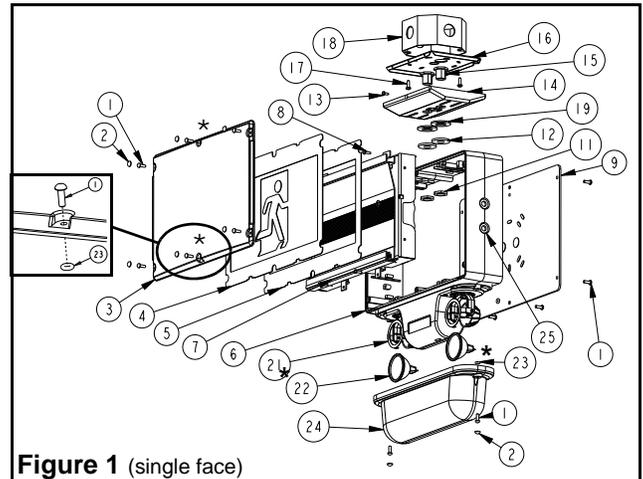
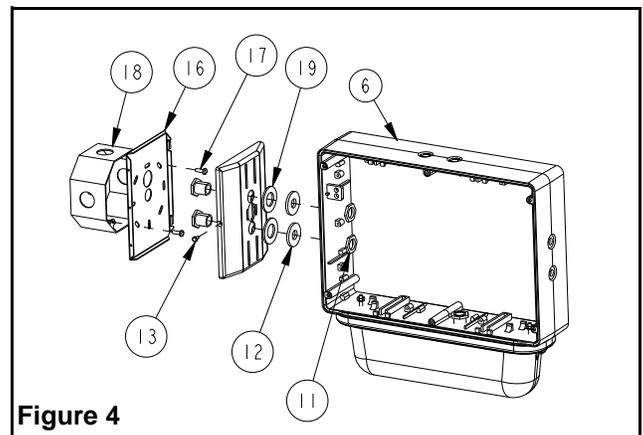

Figure 1 (single face)
Figure 4
- c. Remove proper knockouts in canopy backplate for desired mounting position. For **Nexus** wired option, install the liquidtight™ fitting, provided with the unit. For Ceiling mount, use the knockout located on top of the unit. For Side mount, use the knockout located on side of the unit (see fig. 4).
- e. Make sure the securement screw is accessible (see figures.1 & 2 part # 13). Use existing screws in junction box to secure canopy backplate to the junction box.
- h. Determine which holes in the exit frame will be used for mounting (see figures 1,2 & 4). Support frame by two blocks of wood, maximum one inch apart. Strike knockouts with a hammer and screwdriver. Clear holes of burrs to allow proper assembly of nipple/wire assembly. Note: end mount installation is weatherproof but not certified Nema 4X (see figure 4).
- i. Secure canopy to the frame by threading the provided nipple/wire assembly through the canopy and frame. Make sure the gasket washers are between the canopy and frame, and that the locknuts(11) are inside the exit sign (see figure 4).
6. Install the lens-legend by using the 6 tamper-proof screws. The o-rings have to be installed on the center screws between the lens-legend and the frame as shown in figures 1 and 2.
Screw and knock-out covers (see figure 1 parts 2 & 25) are available in the hardware kit. These covers can be installed on screws and knock-out to avoid any food accumulation. Note: some detergent used in food processing industry can affect durability of polycarbonate lens (see figure 1 parts 3 & 24).